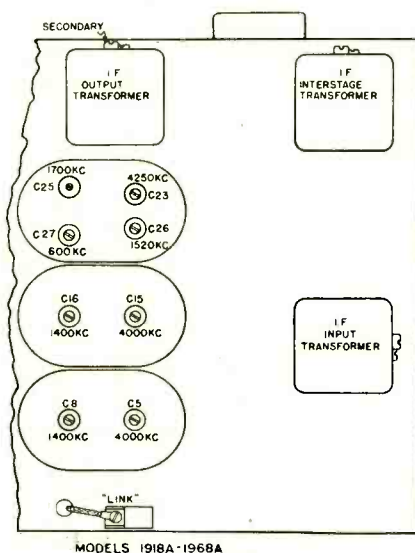

Fig. 3. Locations of r-f and i-f condenser adjustments; also link connection.
4. Connect the output lead of the test oscillator to the control grid of the 6K7MG second i-f tube. This is the tube that is next to the type 75 tube. Adjust the i-f output transformer for maximum output meter reading. The locations of all of the tuning adjustments are shown in Figs. 3 and 4. Be sure that the Volume Control of the receiver is turned all the way on during all adjustments and that the output of the test oscillator is kept at its lowest possible value.
6. There is a "link" connection, mounted at the bottom of the Variable Selectivity control, as shown in Fig. 3. Remove the screw and open the link connection before proceeding with the next operation, No. 7.